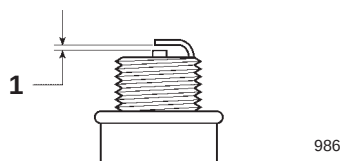

Figure 14
4. Set the gap on the new plug to 0.030 in. (0.76 mm) (Fig. 14).